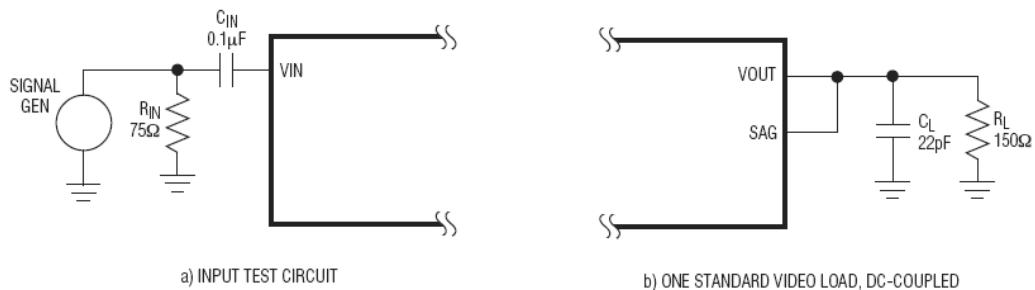

图 1. 标准测试电路
**Note 1:** See the standard test circuits of Figure 1.  $R_L = 75\Omega$ , unless otherwise specified. All digital input signals are timed from a voltage level of  $(V_{IH} + V_{IL}) / 2$ . All parameters are tested at  $T_A = +85^\circ C$  and values through temperature range are guaranteed by design.